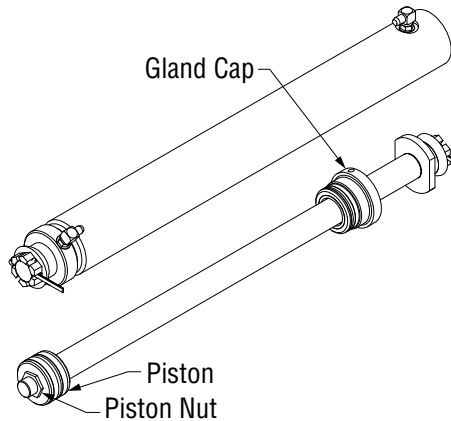

Figure 5-6, Cylinder Rebuild
3. Use a spanner wrench or similar tool to unscrew the gland cap from the cylinder tube. (Figure 5-6)
6. Remove the piston retaining nut and remove the piston. (Figure 5-6)